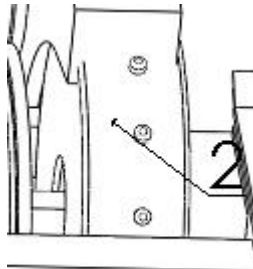

Figure 2
2. Take a piece of braided tape capacitor and hang the small holes in the braided tape on the tines of the hanging wheel (2) Fig. 2.